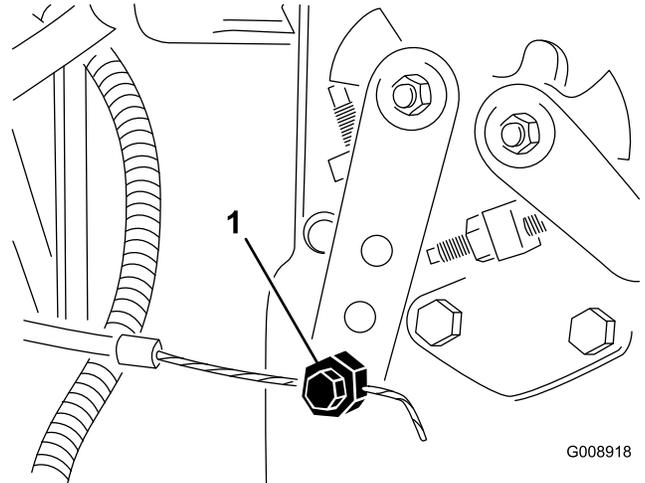

Figure 63
2. Loosen the throttle cable connector on the injection pump lever arm (Figure 63).